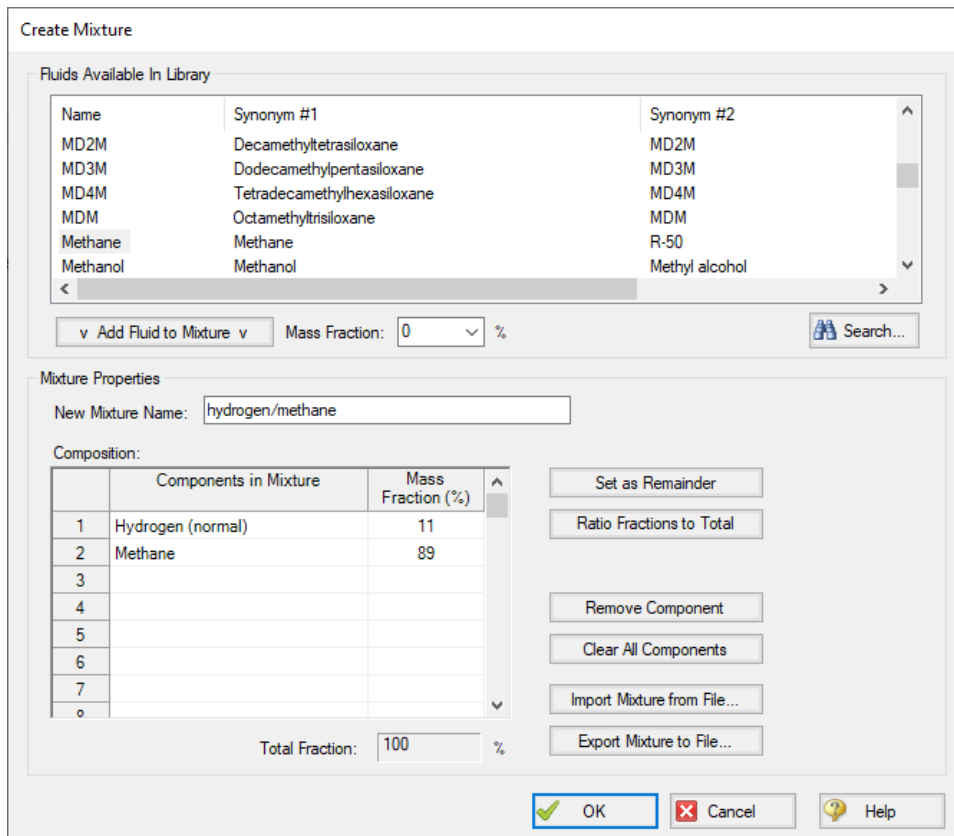

Figure 1: The Create Mixture window is used to create mixtures of Refprop fluids
9. The Create Mixture window should now appear as shown in Figure 1